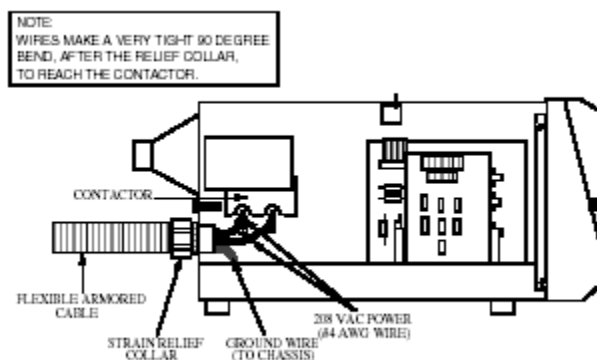

Figure 4-7. *Solaris AC Power Connections*
2. Loosen the cable strain relief collar located on the rear panel of the system. See Figure 4-7.